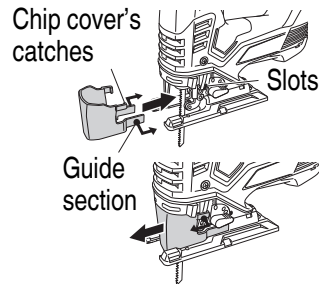

Fig. 9
12. Attaching and detaching the chip cover (**Fig. 9**)